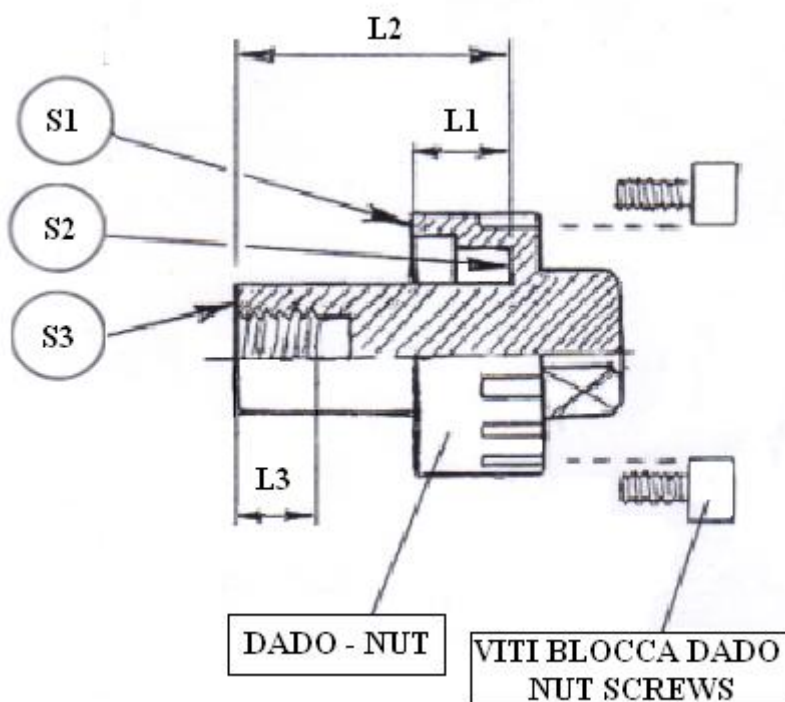

Fig. 7
7) **INSTRUCCIONES PARA EL MONTAJE Y/O ELABORACIÓN DE LA TUERCA DE FIJACIÓN DE LA HÉLICE Fig. 7. - INSTRUCTIONS FOR THE PROPER WORKING OF THE BLOCKING NUT OF THE PROPELLER Fig. 7.**
*Unlike the standard nut, this kind of nut, when it's locked on the motor shaft, must lean **ONLY** to surfaces S1 and S2 and is secured by 4 devices: 2 threaded pins, and a central screw with a dowel. When you mount the propeller on the motor shaft the same nut checking is necessary as previously described for fig. 7*